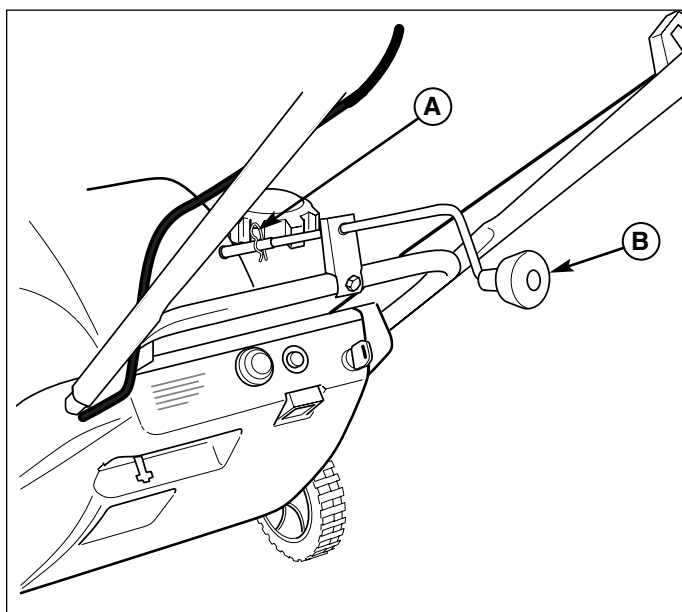

Figure 4. Discharge Chute Control Adjustment
**B. Chute Direction Control** - The chute direction control (B, Figures 4 & 5) allows the discharge chute to be rotated to throw snow in the desired direction. Snow may be thrown at any angle from straight left to straight forward, to straight right.
**C. Chute Deflector** - Controls the distance snow is thrown. Tilting the chute deflector (C, Figure 4) UP provides a higher stream and greater distance, while tilting the deflector DOWN provides a lower stream and less distance.
3. Check the auger control (see A, Figure 4) for proper operation. If adjustment is required, see the service section (pages 13-15) for procedures.
4. Check the chute direction control (B, Figure 4) for proper operation. The discharge chute should rotate freely in both directions. See the service section for adjustment procedures and troubleshooting.
5. Check the chute deflector (C, Figure 4) for proper operation. The deflector should pivot freely up and down. See the service section for procedures.